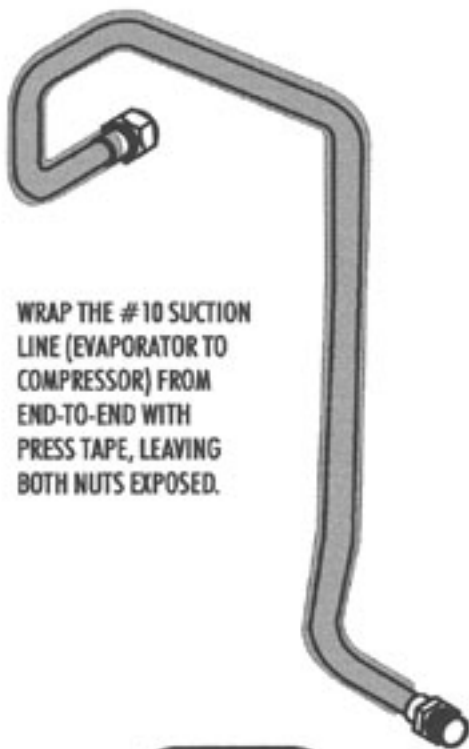

FIGURE 7
- 2. WRAP THE #10 FEEDER TUBE WITH SUPPLIED PRESS TAPE. MAKE SURE LINE IS FULLY COVERED AND TIGHTLY WRAPPED AS SHOWN IN FIGURE 7, PAGE 4.